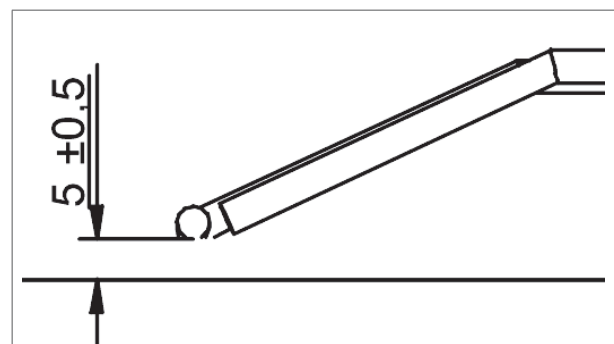

Figure 26 - Distance between the electrode and the burner
- a. The distance between the electrode and the burner should be $5.0 (\pm 0.5)$ mm (figure 26).